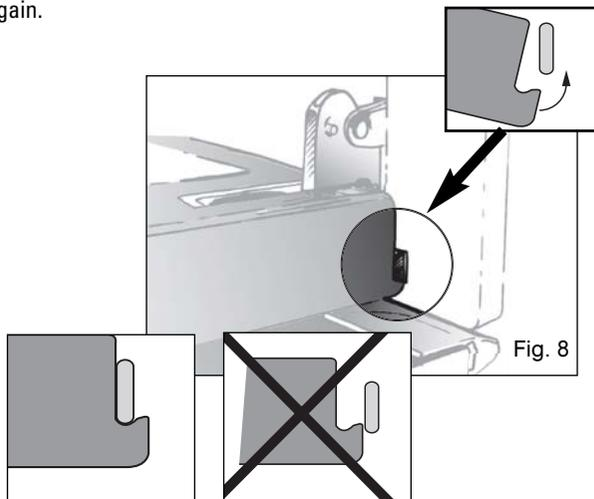

Fig. 8
- Take care to correctly slot the frame in the hinge using the the lug (Fig. 8).